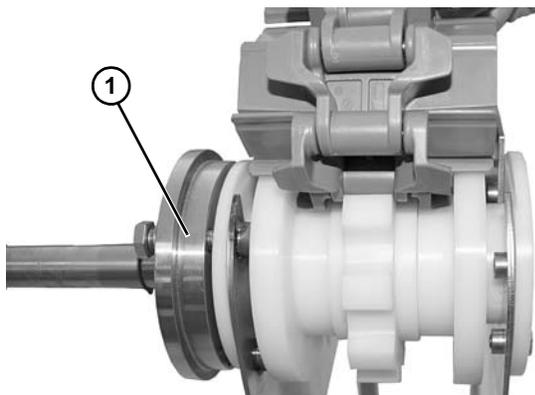

Figure 14
- a. Install belt around drive end (**Figure 14, item 1**) of conveyor and bring the ends of the belt together.